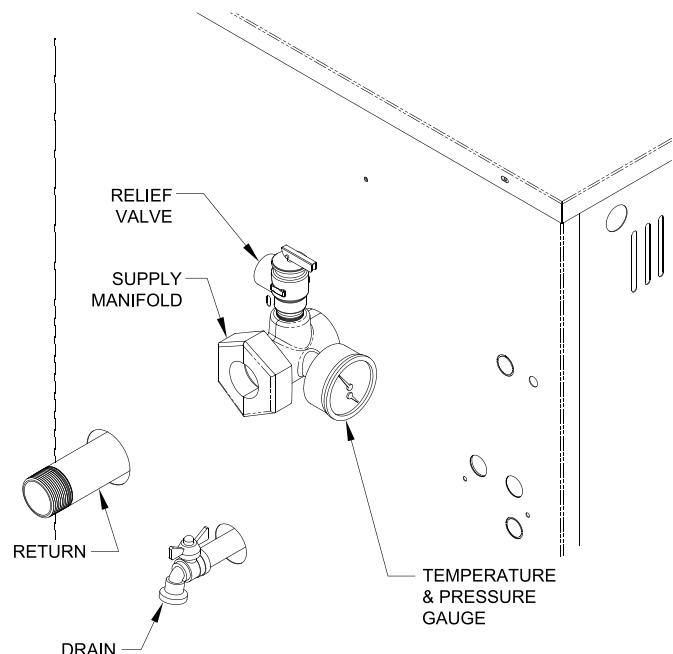

Figure 7-1: Near Boiler Piping
3. Install Safety Relief Valve. See Figure 7-1. Safety Relief Valve must be installed with spindle in vertical position.
4. Connect system supply and return piping to boiler. Refer to Figures 7-1, 7-2, and 7-3. Also consult Residential Hydronic Heating Installation and Design I=B=R Guide. Maintain minimum $\frac{1}{2}$ inch clearance from hot water piping to combustible materials.